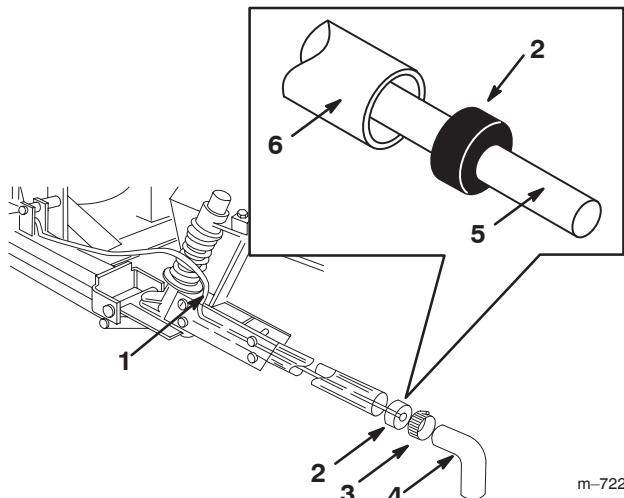

Figure 24
6. Insert the boom hose into the hole drilled in the right boom pipe and push it into the boom pipe until **2 to 3 inches** of boom hose **extends beyond** the opposite end of the boom pipe (Fig. 24).
7. Push the boom hose through the punched hole boom cap until it **extends 2 to 3 inches past the cap** (Fig. 24).
8. Install the boom cap into the end of the boom pipe (Fig. 24).
9. Lubricate the inside of the extension hose and slide it over the cap and boom hose and onto the boom pipe (Fig. 24).
10. Secure the extension hose onto the boom pipe with a large hose clamp (Fig. 24).